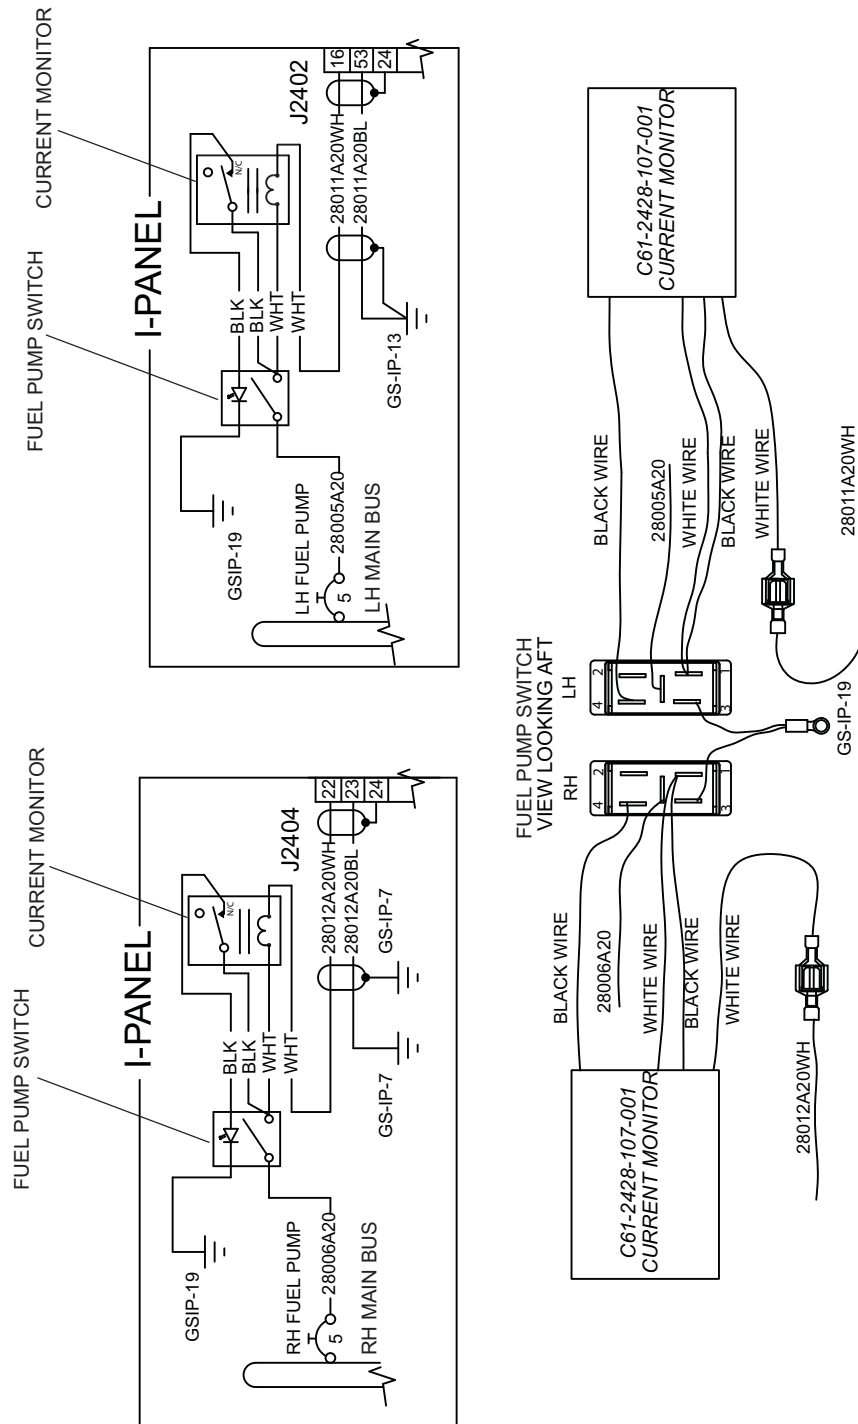

Figure 1 - Electrical Connections
- 10.8 Connect the other ends of the ground wires to the FUEL PUMP switches with the Fastons (P/N 2-520184-2) provided (See Figure 1).
- 10.9 Route the ground wires, in the ring terminal, from the FUEL PUMP switches to GS-IP-19 (See Figure 1).
- 10.13 Connect the wires from the Current Monitors to the FUEL PUMP switches and to the existing aircraft wiring with Faston connectors (See Figure 1).